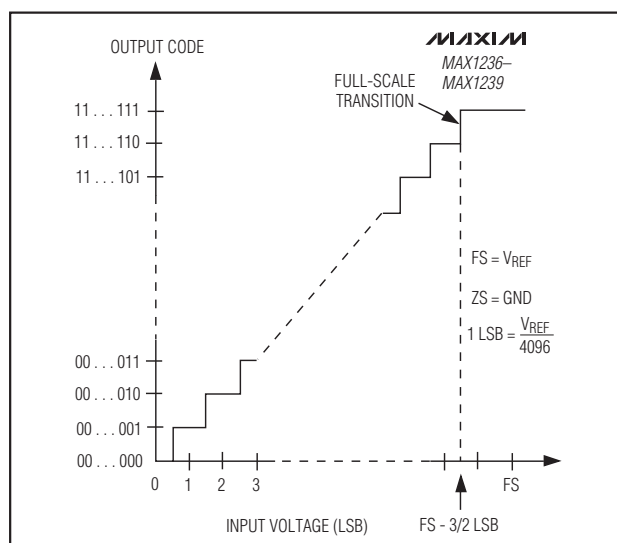

Figure 12. Unipolar Transfer Function
Output data coding for the MAX1236-MAX1239 is binary in unipolar mode and two's complement in bipolar mode with 1 LSB = (VREF/2N) where "N" is the number of bits (12). Code transitions occur halfway between successive-integer LSB values. Figures 12 and 13 show the input/output (I/O) transfer functions for unipolar and bipolar operations, respectively.